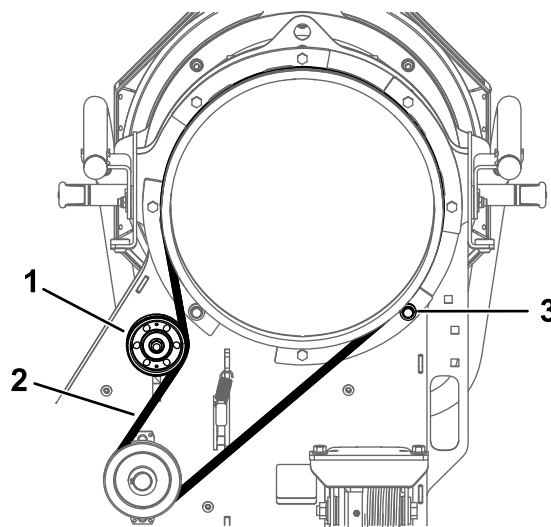

Figure 32
1. Bolt (3)
4. Loosen the nut on the top pulley and slide the pulley up to release tension on the belt (Figure 32).
5. Remove the roller bearing (Figure 32).
6. Remove the belt and install a new belt (Figure 32).
7. Install the roller bearing (Figure 32)
8. Slide the top pulley down until the belt deflection is 5 mm (0.19 inch) at the center of the largest span and tighten the nut (Figure 32).